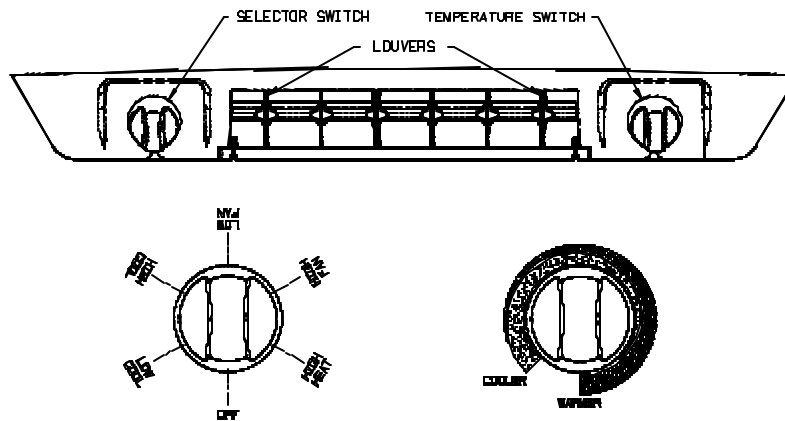

FIGURE 1
A. The Selector Switch — The selector switch determines which mode of operation the air conditioner will be in. By rotating the selector switch, the operator can obtain any system function desired. System functions vary depending upon options of both the roof top unit and ceiling assembly. Figure 1 shows selector switch location and
B. The thermostat (temperature control) - The thermostat regulates the “ON” and “OFF” temperature setting at which the compressor will operate (See Figure 1).
I. For Cooling (Refer to Figure 1, Page 3)
IV. For Heating (Refer to Figure 1, Page 3)
V. For Air Circulation Only (Refer to Figure 1, Page 3)